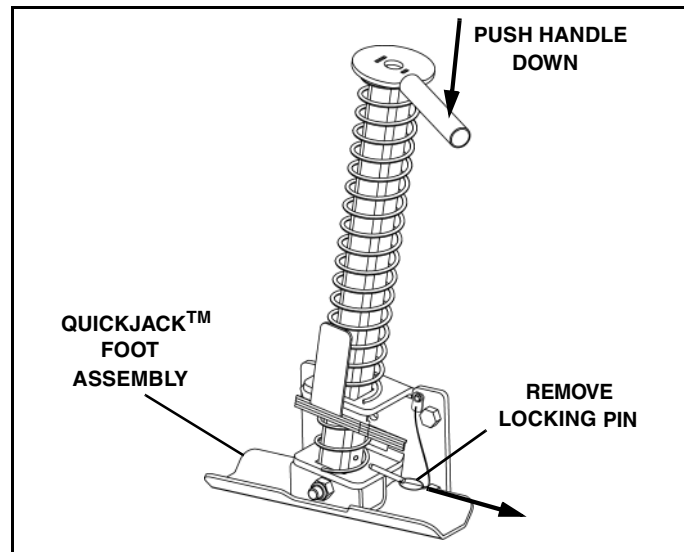

Figure 1-41
6. Remove the QuickJack™ locking pin and push the jackstand handle down to fully lower the foot to the ground. (See Figure 1-41).